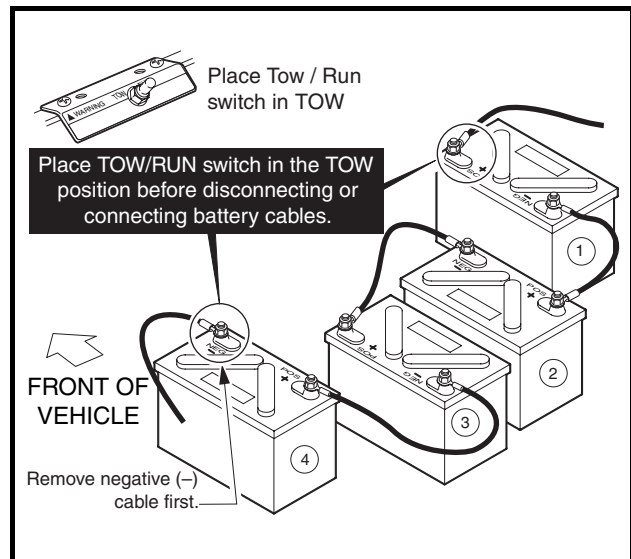

Figure 2 Electric Vehicle
- To avoid unintentionally starting the vehicle, disconnect the batteries as shown (Figure 2, Page 11).